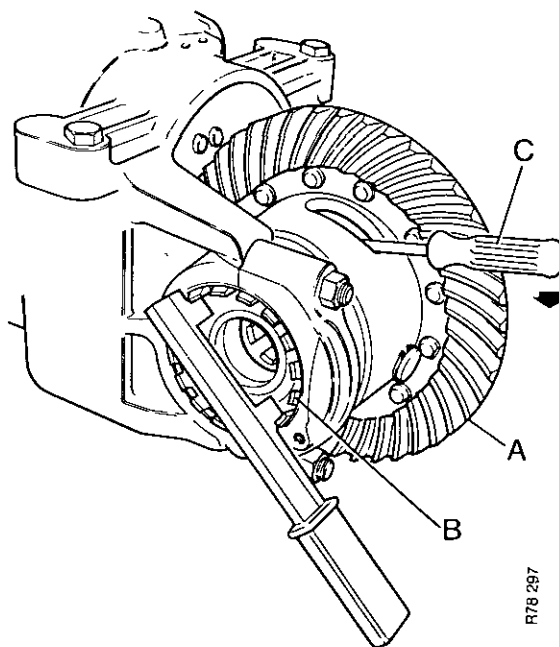

FIGURE 101. ADJUSTING DIFFERENTIAL BEARINGS
4. Put a 30 cm screwdriver C in the slot of the differential cage, parallel with the floor. See Figure 101.